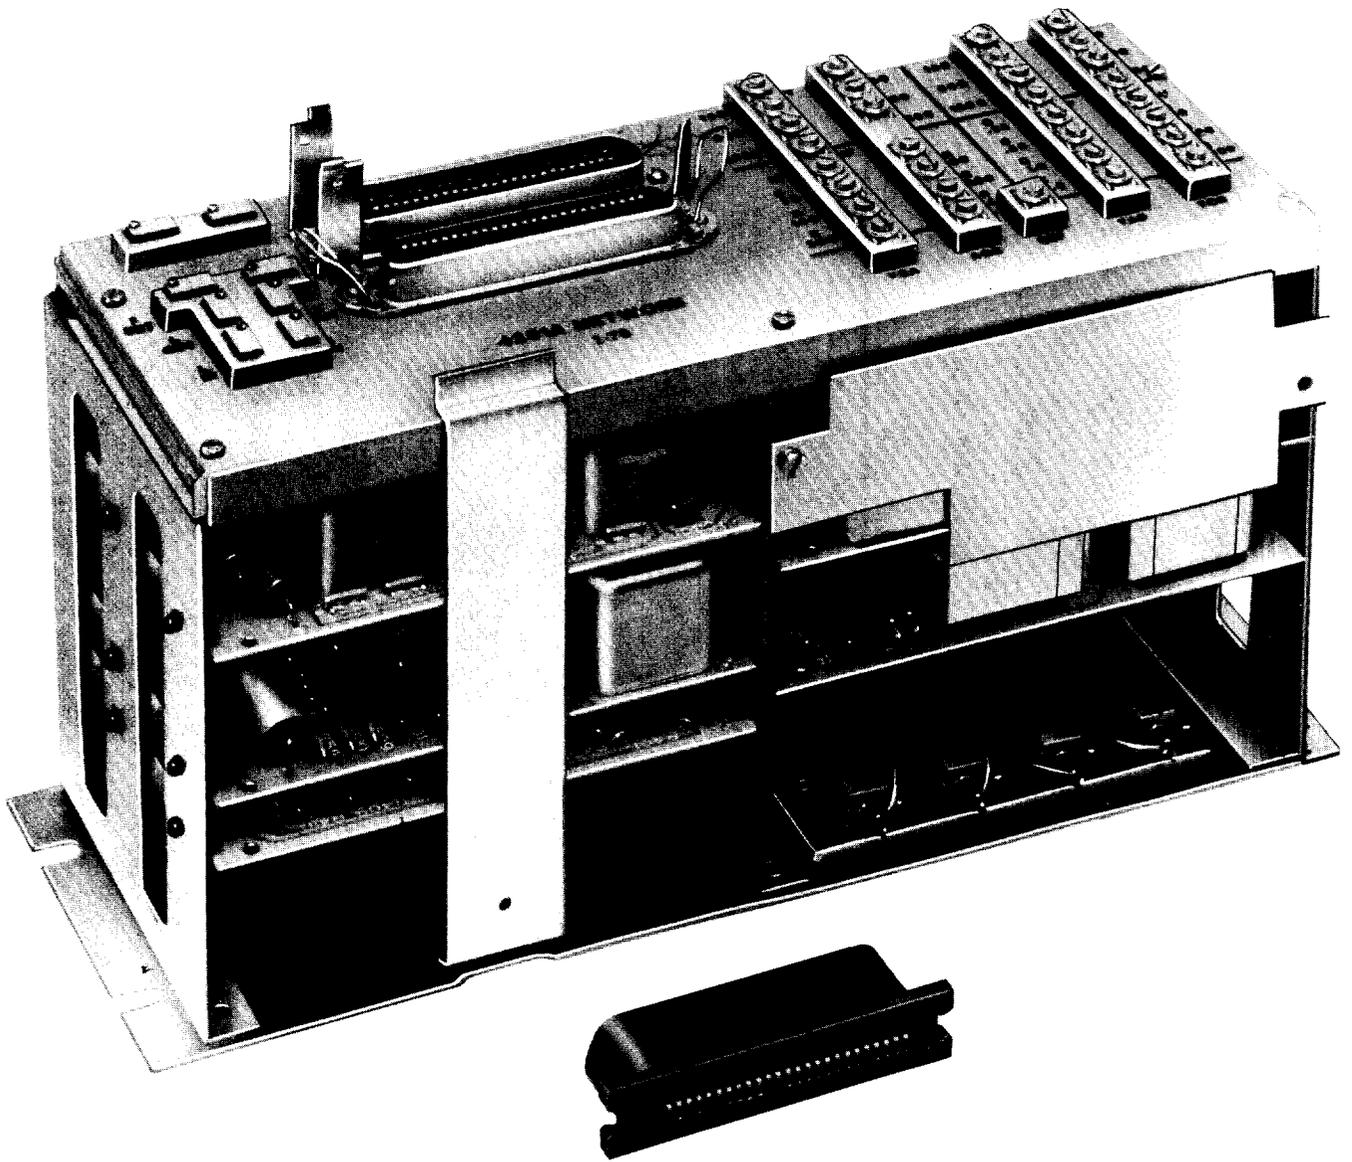

Fig. 1—UTC Without RFI Shielding (4251A Network)
- 2.01** The UTC shown in Fig. 1 and 2 is a package unit requiring a mounting space of approximately 4 inches wide by 8-inches high by 11 inches long.